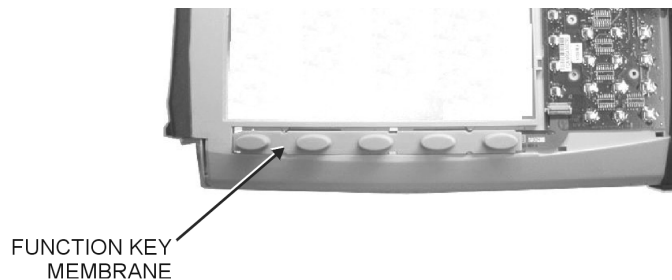

Figure 7-8. Function Keypad Membrane and Function Keypad PCB
4. Remove the function key membrane by gently pulling the membrane up and away from the front panel (Figure 7-8).